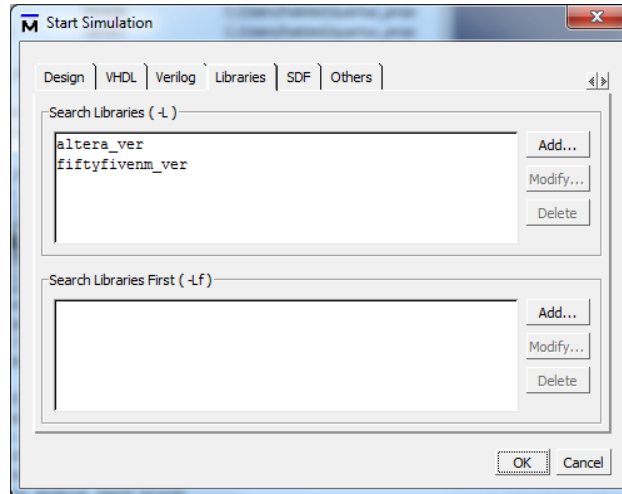

Figure 12. Selecting the libraries
6. Next, click the **Libraries** tab in the *same* Start Simulation dialog box. Click the **Add...** button to the left of the Search Libraries (-L) pane. A Select Library dialog box will pop up. Select the down arrow ▼ and scroll down through the list of libraries. Select **altera\_ver** and **fiftyfivenm\_ver**, as shown in Fig. 12.